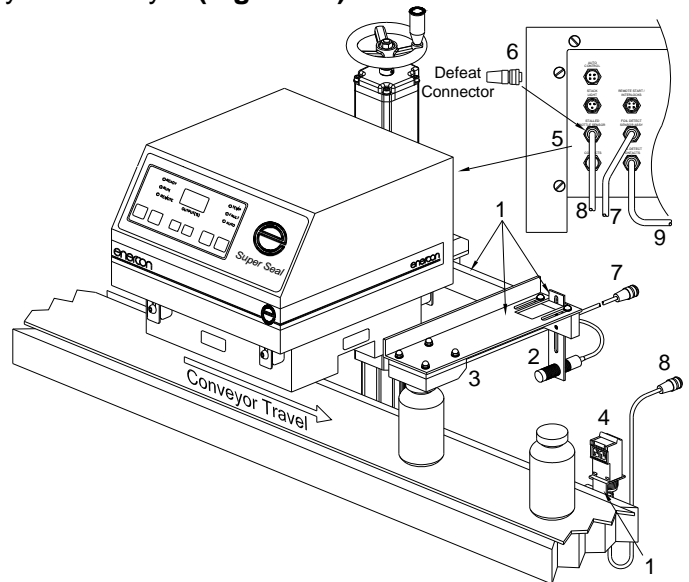

Figure 29
and for mounting the Stalled Bottle Sensor (4) to your conveyor (Figure 29).